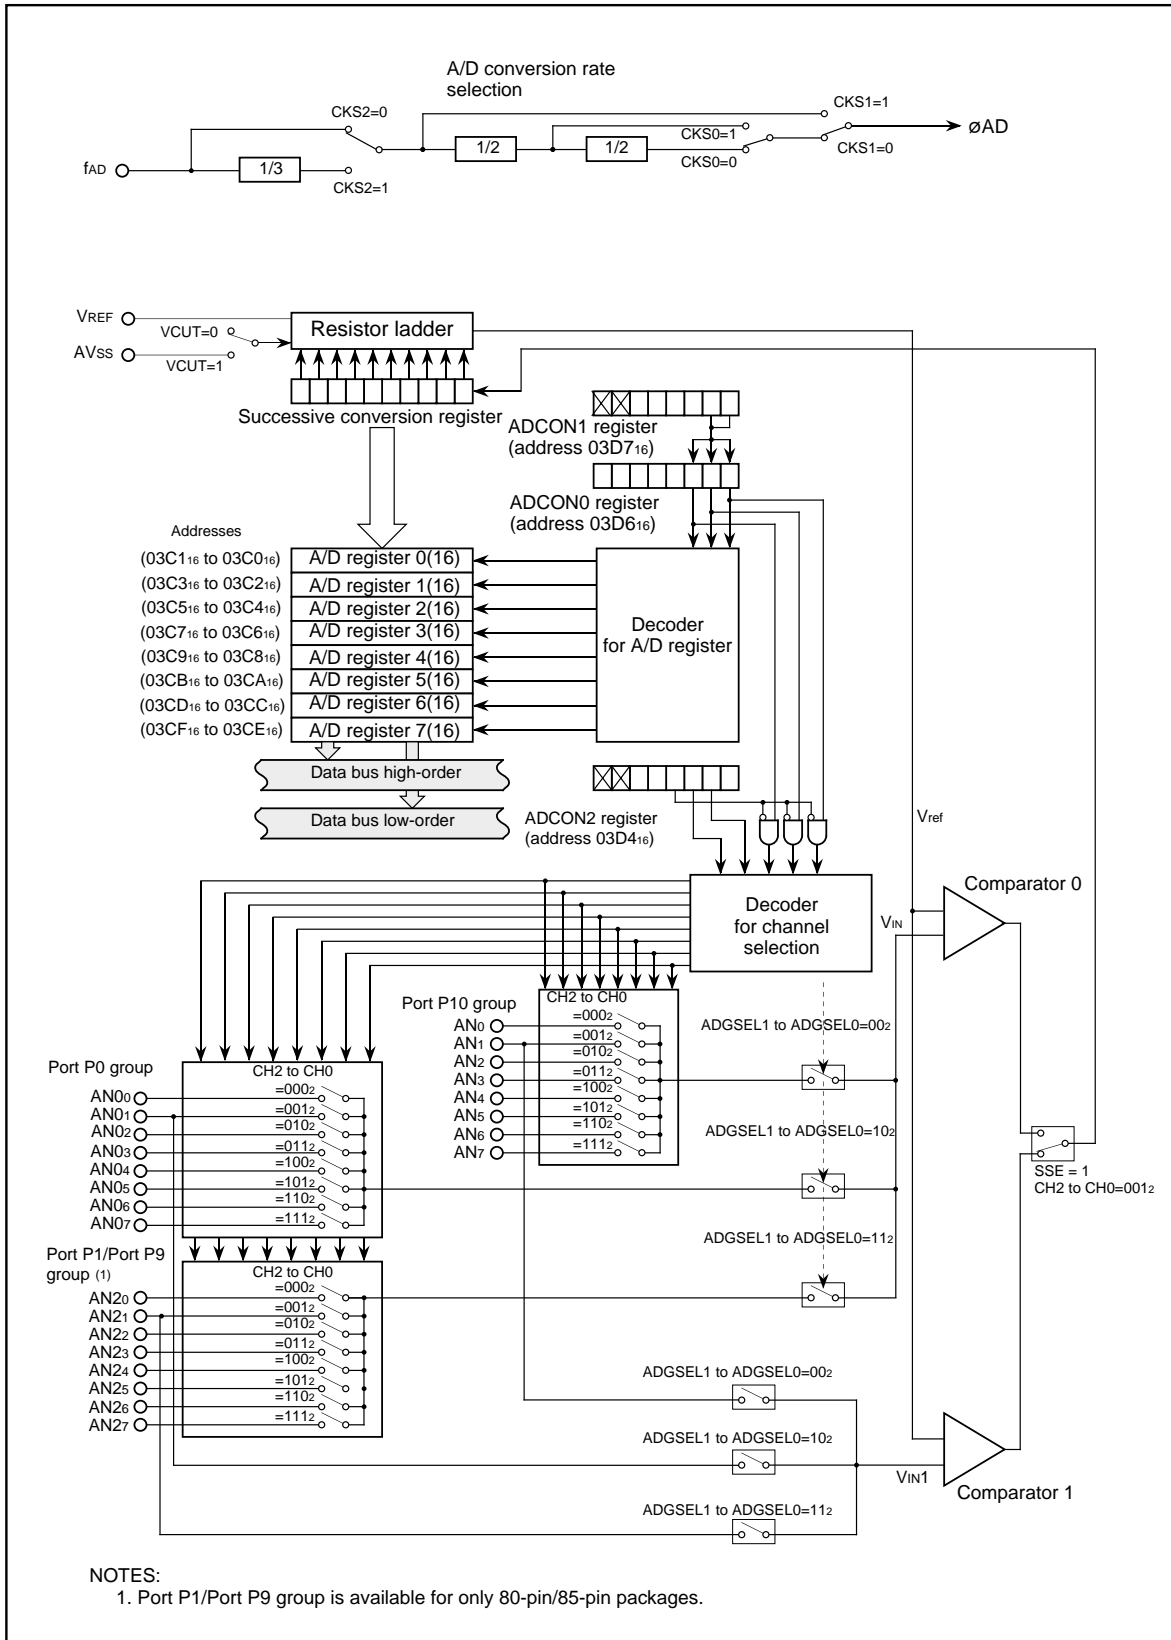
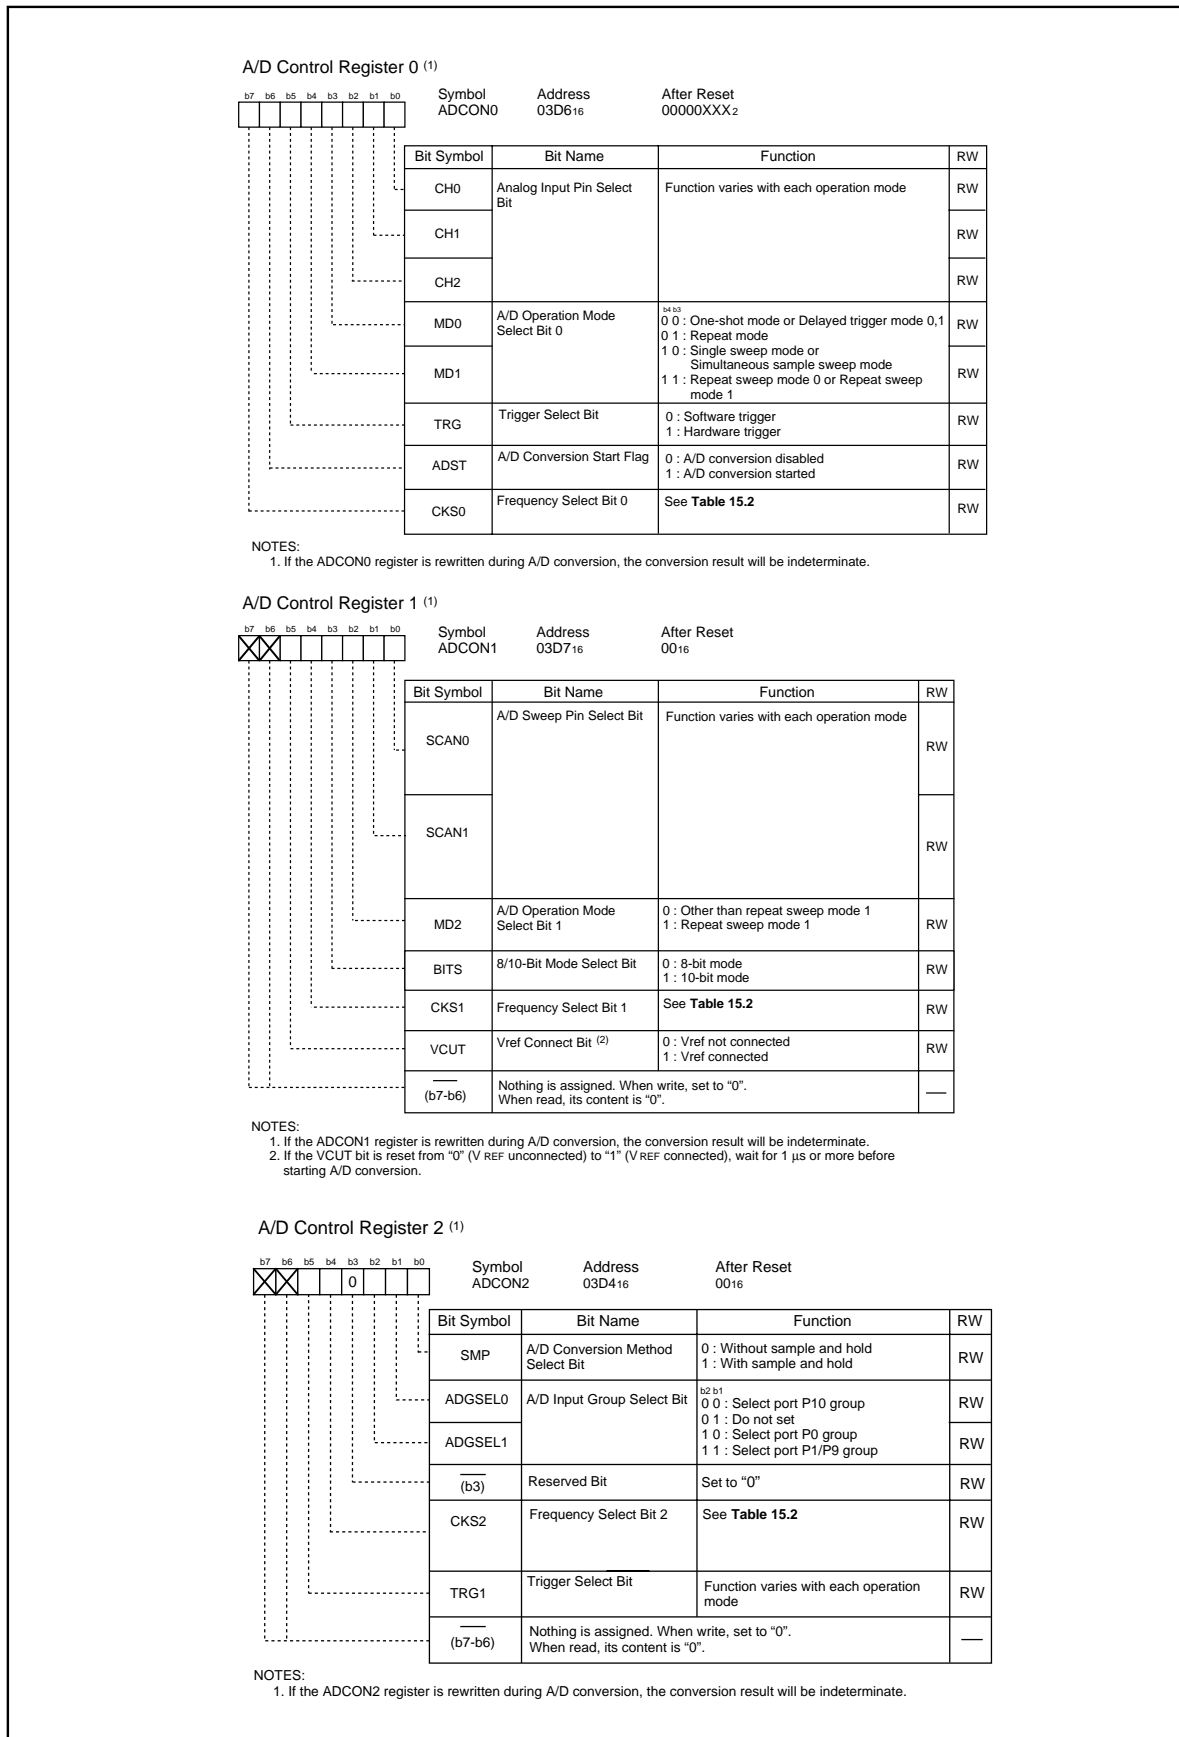

Figure 15.1 A/D Converter Block Diagram
Figure 15.2 ADCON0 to ADCON2 Registers
**Table 15.1** shows the A/D converter performance. **Figure 15.1** shows the A/D converter block diagram and **Figures 15.2** to **15.4** show the A/D converter associated with registers.